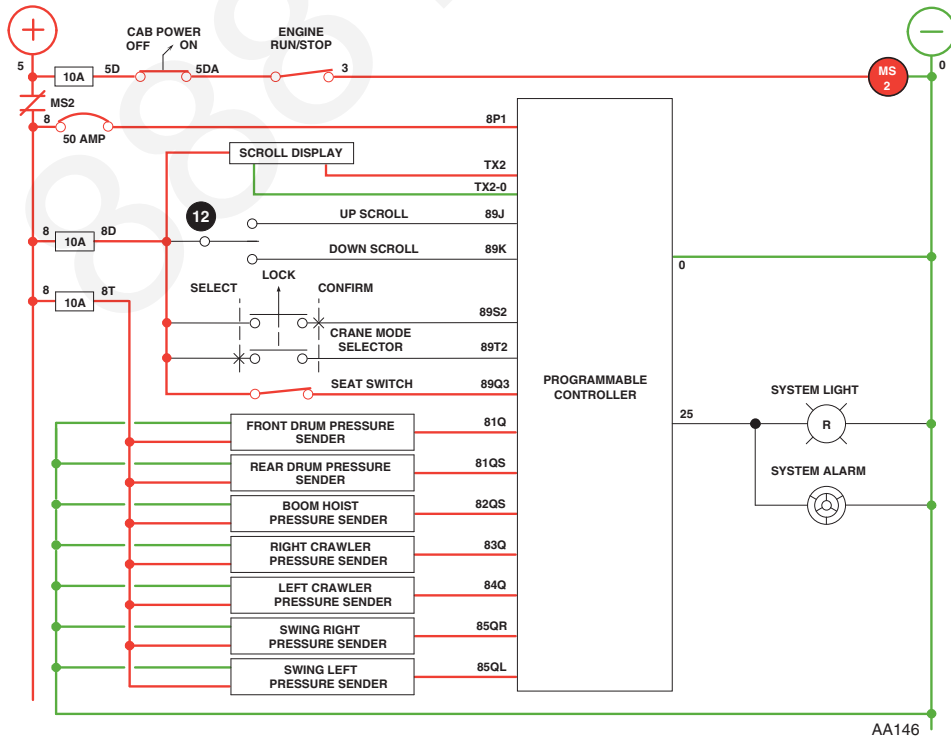
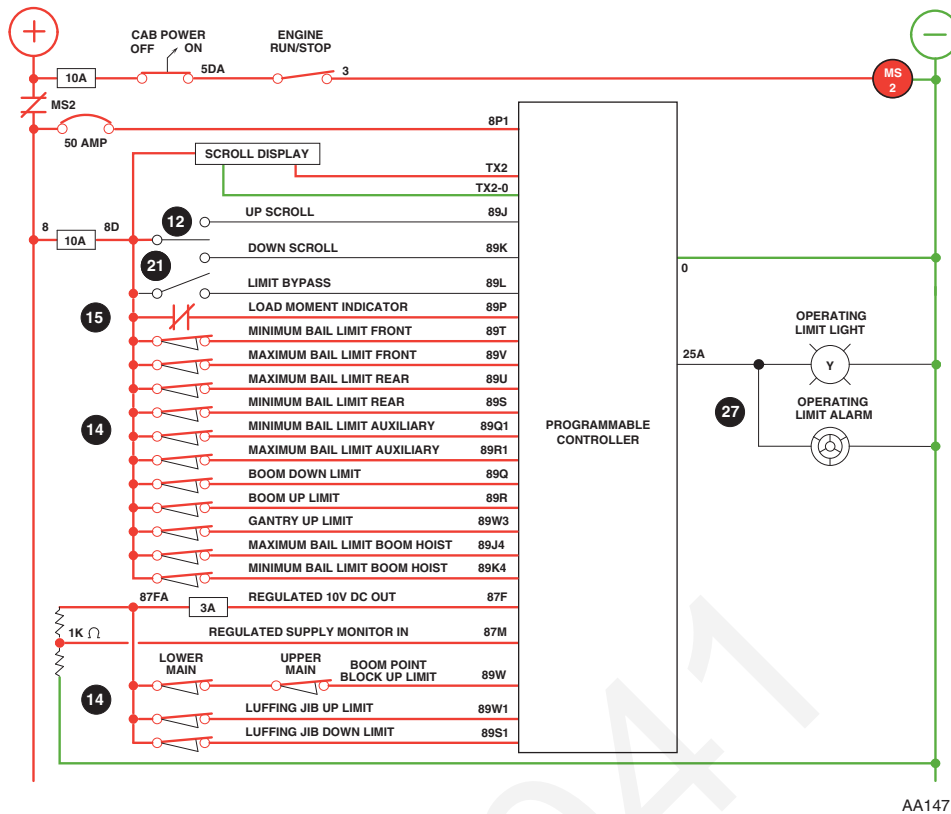

FIGURE 12 SYSTEMS MONITORING SENDERS ELECTRIC CIRCUIT (Engine Running - Normal Operation)
FIGURE 13 OPERATING LIMITS ELECTRIC CIRCUIT (Engine Running - Operating Fault)
When the contacts of MS2 close, voltage is available to the PC, low air pressure switch (6), and the hydraulic system and charge pressure senders (Figure 12). In addition, voltage is available to moisture ejectors #1 and #2 (7); the cab accessory controls including wipers (8),
Limit Switches (Figures 12 and 13)
The seat switch (Figure 12) and boom and gantry up limit switches (Figure 13) are standard equipment on the crane. The boom down and all other limit switches are optional.
If the boom is raised to the maximum boom stop position (83° above horizontal during boom hoist operation), the boom up limit switch (see Figure 13) opens the circuit. Boom hoist pump (2) then strokes to off and park brake (1) applies to stop the boom hoist. The boom should be lowered to correct the problem.